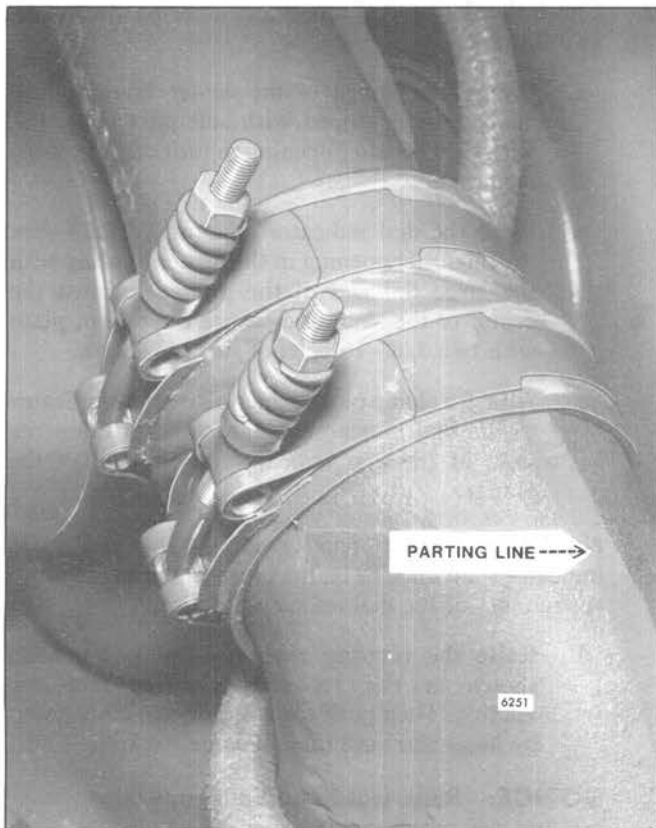

Fig. 17 – Properly Positioned Clamps
5. Slide the blower air inlet hose over the compressor housing outlet opening. Then center the hose between the turbocharger and the blower air inlet housing and secure the clamps with the “T” section positioned away from the parting line on the air inlet housing (Fig. 17).